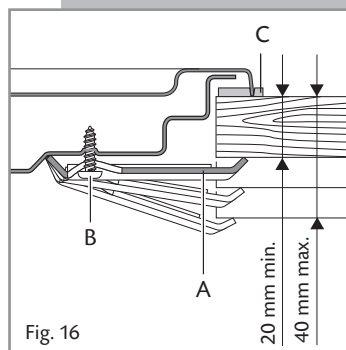

Fig. 16
- Turn the hob upside down and fasten the brackets "A" to the appropriate socket holes, without tightening the screws "B" for the moment (fig. 16).
Fastening the Hob (fig. 16)